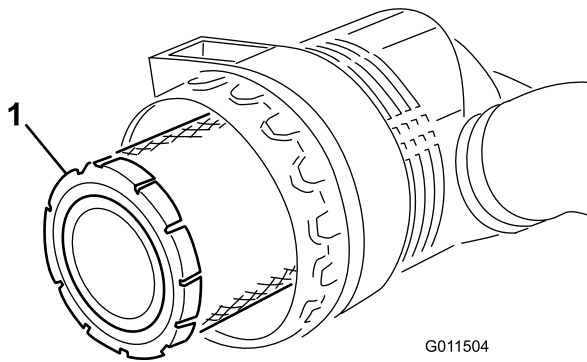
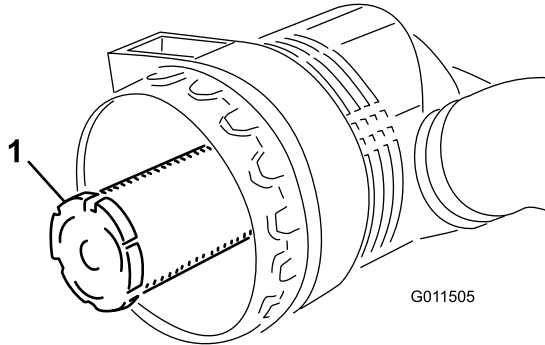

Figure 48
Figure 49
3. Remove the primary filter (Figure 48). Cleaning of the used element is not recommended due to the possibility of damage to the filter media. Inspect the new filter for shipping damage, checking the sealing end of the filter and the body. Do not use a damaged element. **Do not** remove the safety filter (Figure 49).
Important: Never attempt to clean the safety filter (Figure 49). Replace the safety filter with a new one after every three primary filter services.
4. Replace the primary filter (Figure 48).